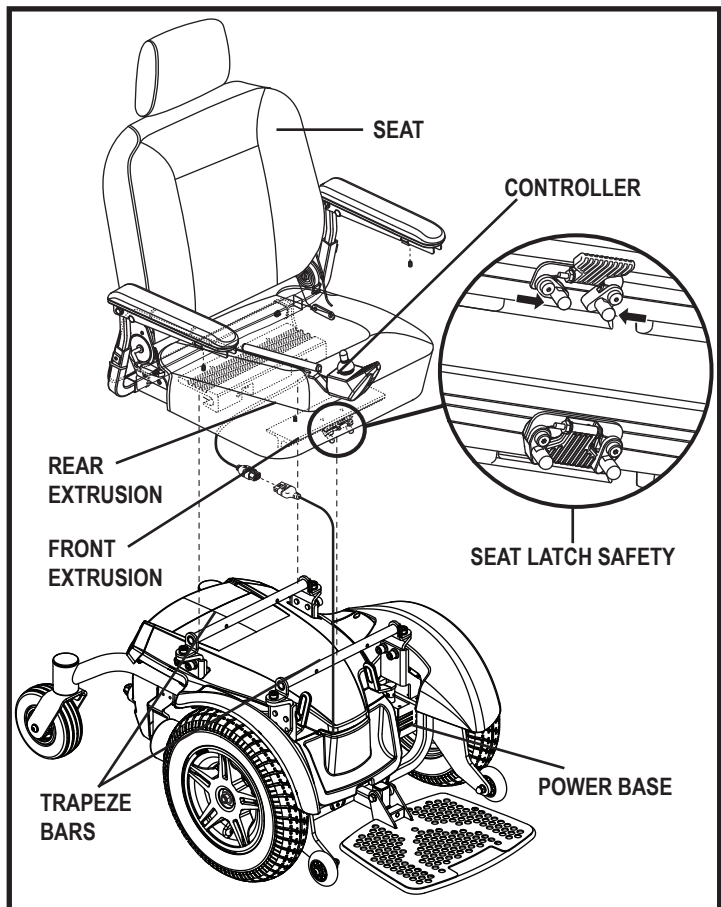

Figure 6. Seat and Controller Assembly
It may be necessary to install the seat either prior to initial operation or after transporting your power chair. Contour seats are attached to the power base with the Universal Mounting System (UMS). The UMS consists of universal parts that may be attached to the seat, regardless of seat width or seat depth. The two main components are aluminum extrusions mounted to the seat base. These extrusions attach to a pair of trapeze bars that are mounted to the power base. **See figure 6.**
1. Tilt the seat back and slide the rear extrusion onto the rear trapeze bar. **See figure 6.**
4. Flip up the seat latch safety. **See figure 6.**
7. Remove the hardware that attaches the trapeze bars to the seat interface weldments. **See figures 6 and 8.**